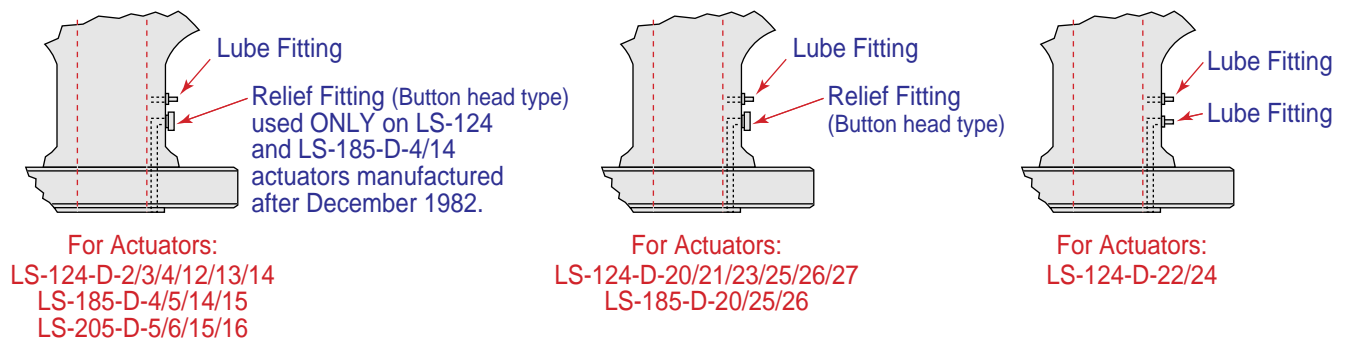

FIGURE 45
1. If removed, attach the nameplate (Item 43) with two (2) drive screws (Item 42). (See detail "E".)
2. Install the lube/relief fittings (Item 41) if they were removed or missing. See Figure 45 below for exact arrangement of fittings. (Note: Failure to install the lube and relief fittings in the proper hole could cause the valve/ actuator to lock-up.)